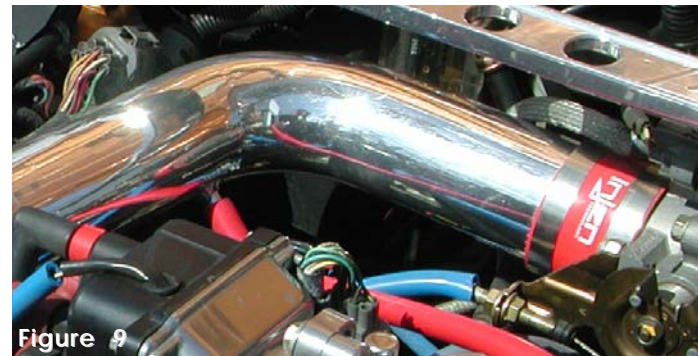

Figure 9
- 3- Remove the PCV hard pipe connecting the coolant bypass hose and crank case breather line. Insert coupler into coolant delivery port, use the stock clamp. Now, insert the coupler into the intake delivery port, again the stock clamps are used to secure the coolant lines together. (See figs. 9 and 12)
- 6- Once the cold air intake has been aligned, take the 6mm flange nut and fender washer and screw it over the vibra-mount stud, this will help secure the entire intake in place. (See fig. 9 and 10)